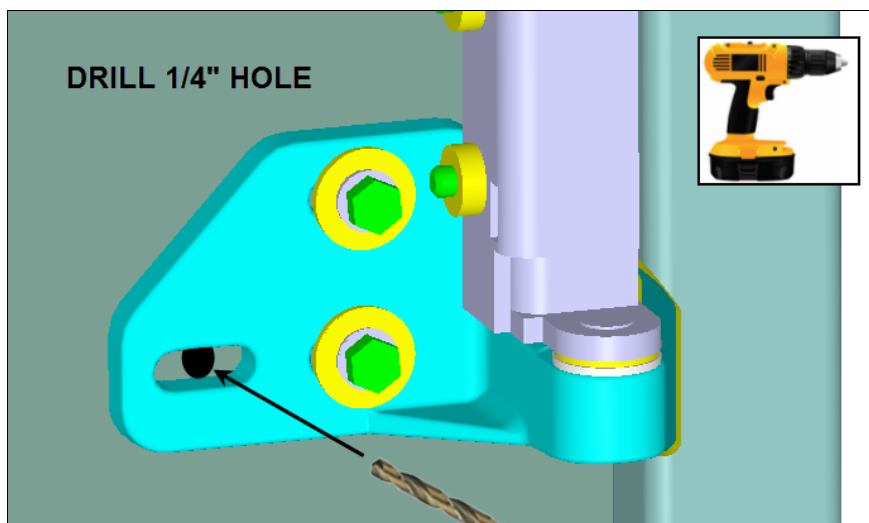

FIG.19 LOWER HINGE 3rd BOLT HOLE
8. Drill a 1/4" hole in the middle of the lower hinge 3rd slot (Fig.19).